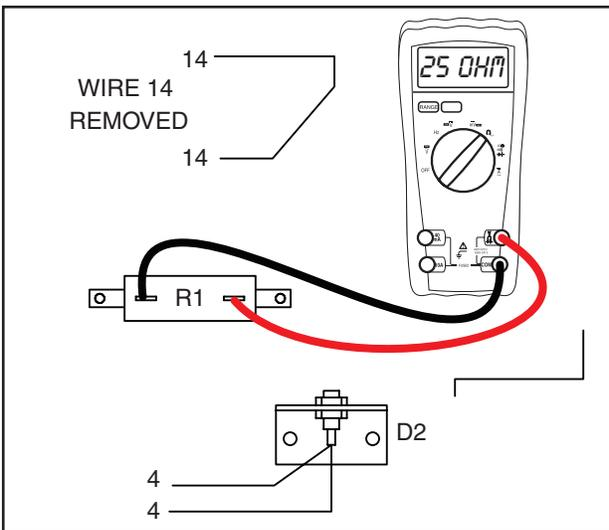

Figure 6-17. – Diode Test Step 9
9. Connect one meter test lead to one terminal of the resistor (R1). Connect the other meter lead to the remaining terminal of resistor (R1). See Figure 6-17. Approximately 25 ohms should be measured.